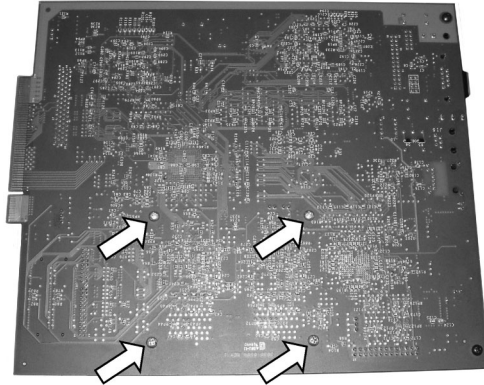

Fig. M3-10: Location of M3 mounting screws (ESI-600 main board shown, without faceplate)
2. Using the remaining four screws from the M3 kit, attach the M3 assembly to the main board. Make sure that the M3 faceplate is aligned with the opening on the main board faceplate. See **Fig. M3-10**, below, for the mounting screw locations.